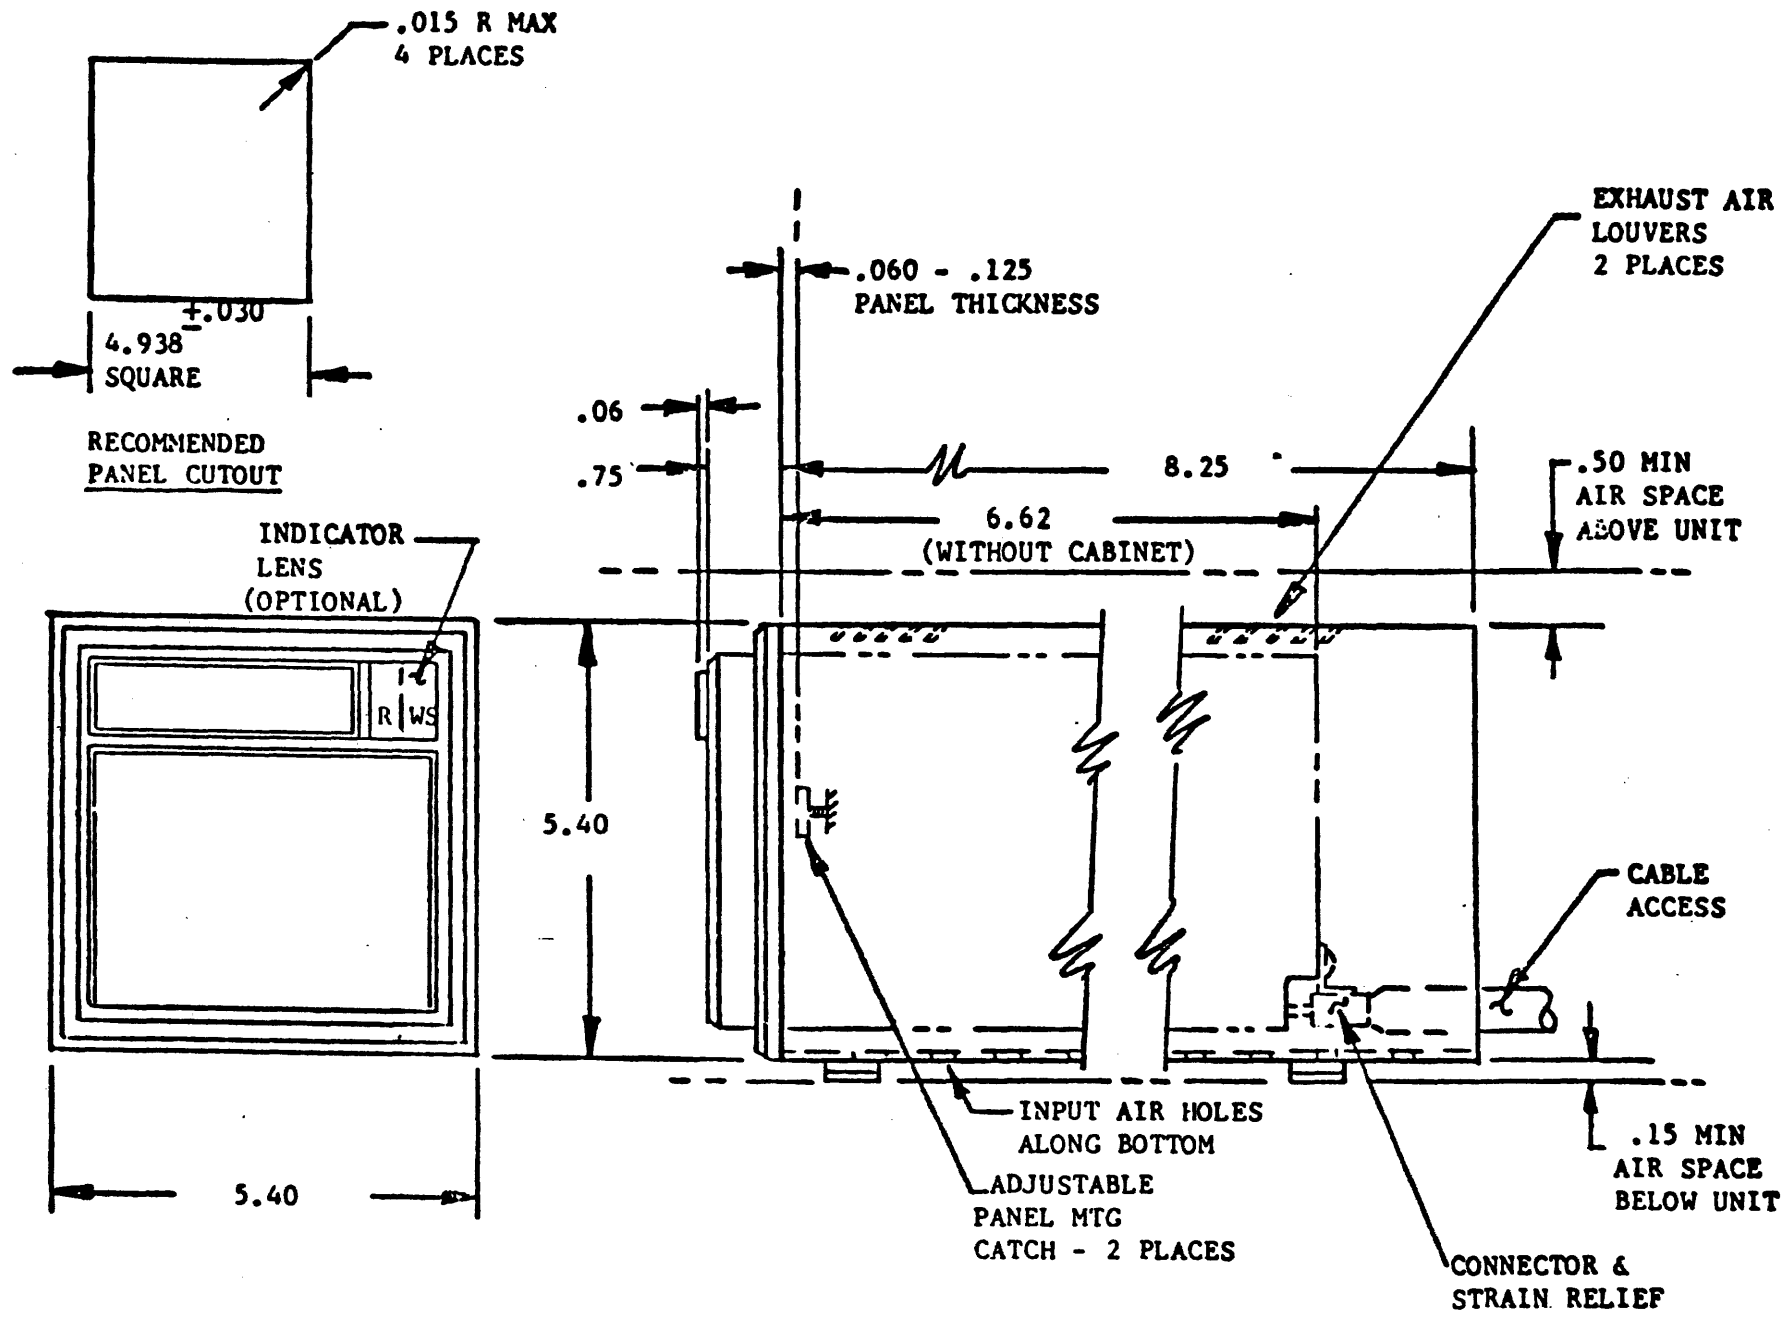

FIGURE 1
An optional indicator when provided (see Figure 1) will cause the right side of the lens above the Write Status (WS) legend to be illuminated when a cassette tape, with the write enable plug in place, is properly inserted into the carriage and the carriage is closed. With the tab removed or the carriage open, the indicator will be dark.